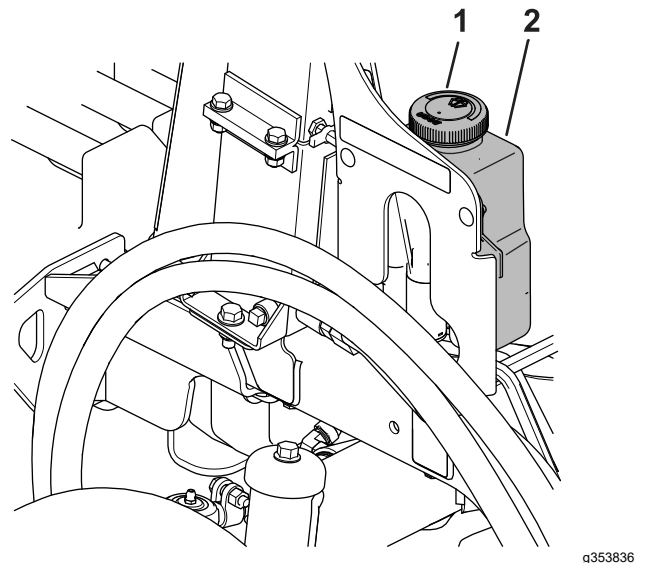

Figure 85
1. Remove the cap (Figure 85) on the reservoir.